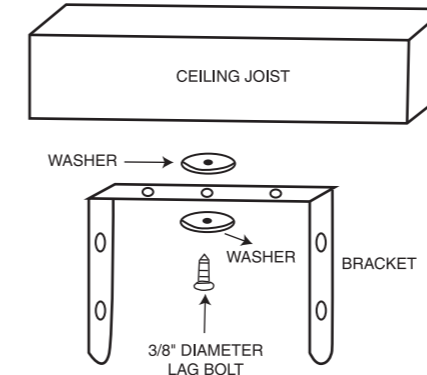

Figure 4a - Single- Screw Mounting
Refer to Figure 4a and 4b.
- Turning the unit** -If the unit has been installed with a single lag bolt, as shown in the figure 4a, simply turn the entire unit as needed to adjust air flow.